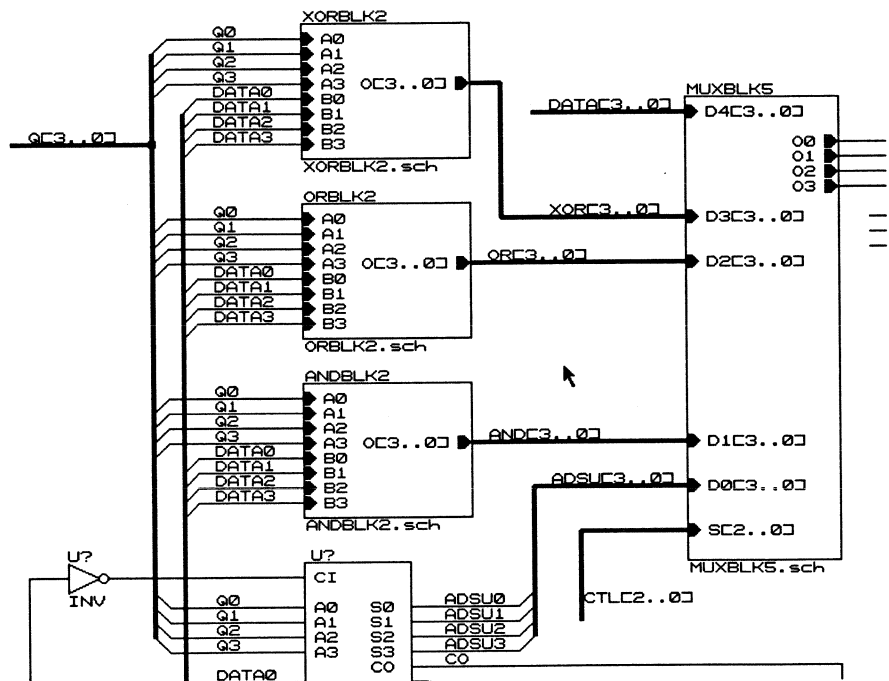

Figure 11-9 ANDBLK2 and ORBLK2 Connections and Labels
Break out the Q3, Q2, Q1, and Q0 signals from the bus labeled Q[3..0]. Refer to Figure 11-9 while performing the commands in this section.
7. Moving down one grid at a time, place the other Bus Entry elements to allow connections between the B pins and the bus labeled DATA[3..0], as shown in Figure 11-9.
The next step is to add the wires that connect the ANDBLK2 and ORBLK2 symbols with the bus entry elements, as shown in Figure 11-9.
Add a junction symbol to the Q[3..0] bus as shown in Figure 11-9.
11. Repeat the above steps until you have labeled all inputs to the ORBLK2 and ANDBLK2 symbols, as shown in Figure 11-9.